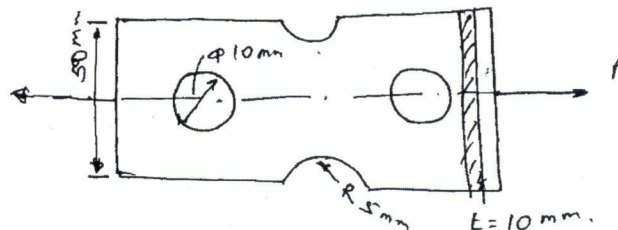

Fig. Q2 (b)
- b. Determine the safe load that can be carried by a bar of rectangular cross section shown in Fig. Q2 (b) limiting the maximum stress to 130 MPa taking stress concentration into account. (06 Marks)